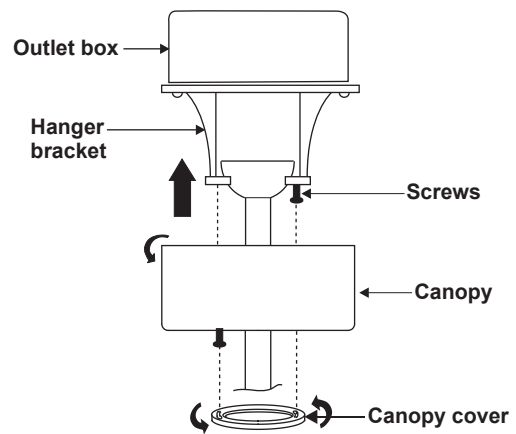

Figure 10
2. Slide the canopy up to hanger bracket and place the key hole on the canopy over the screw on the hanger bracket, turn canopy until it locks in place at the narrow section of the key holes. (Fig. 10)